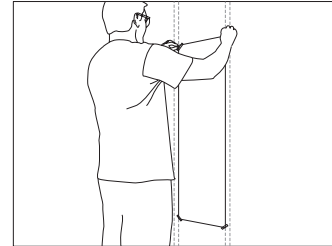

Figure 4
*Once studs have been located, choose desired height of your 1420. Using a level, mark a horizontal line from stud to stud that would be the top of your opening for your insert(s). Measure down vertically 21 inches to mark the bottom of your opening for the insert(s). Total opening space for your inserts should be from stud to stud x 21 inches in height. See Figure 4*